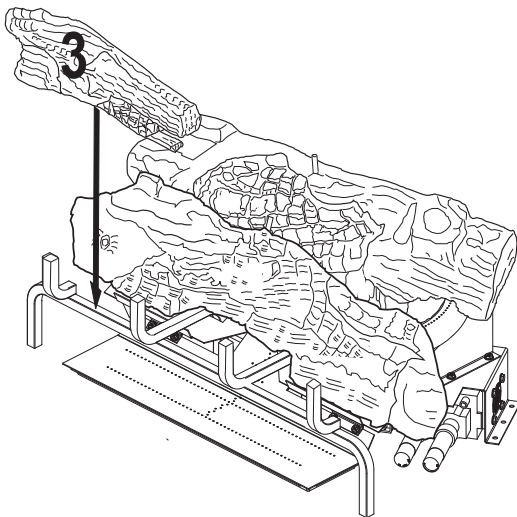

Figure 23 - Installing Log # 3
3. Place the front left log (#3) onto the base assembly between the middle log (#2) and the grate fingers. The back of the front left log (#3) will rest against the front of the middle log (#2). The notch at the end of the front left log (#3) will fit around the grate bar. See **Figure 23, Page 18**.